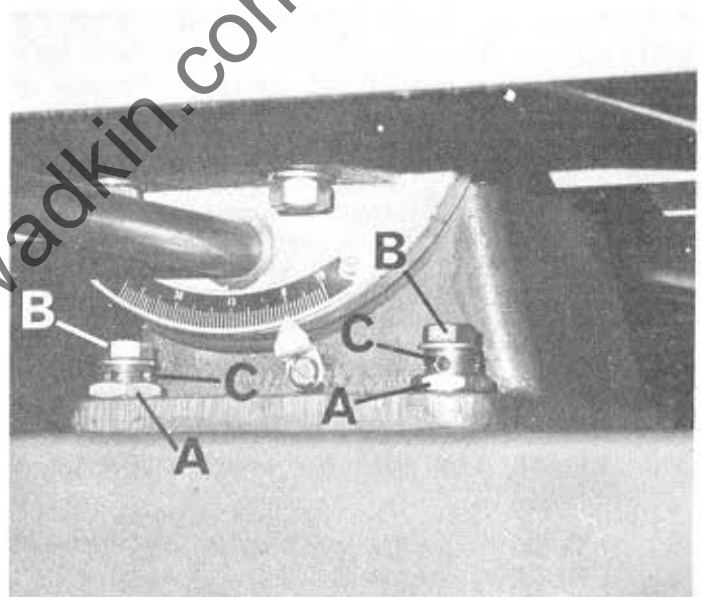

FIG 19
2. Loosen the 2 - 20mm locknuts "A", Fig. 19.